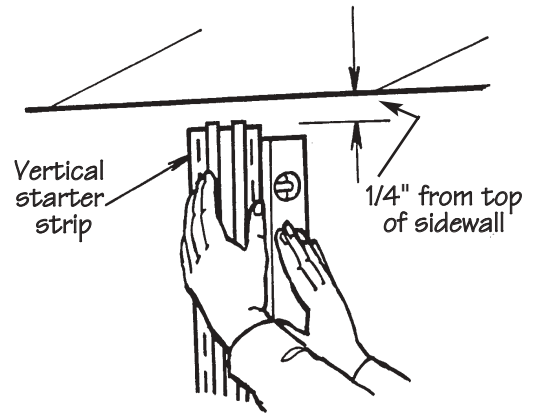

Figure 57.
- Find the center of each sidewall and use a level or plumbline to install two back-to-back J-channels or an H-divider bar (Fig. 57). Leave a 1/4" gap at the top and bottom. These will serve as starter strips in which to lock the vertical siding.